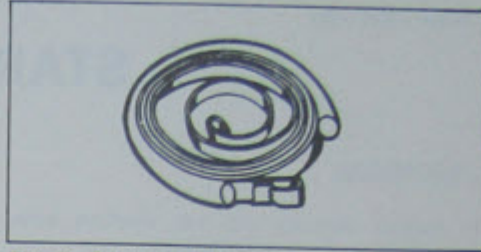

Fig. 7 Spring and keeper
- Check main spring for troublefree operation. If the main spring is damaged, remove by sharply striking starter box (11) on bench, keeping box feet downward. To avoid injury by the spring suddenly being released from its housing. To refit a new spring in its housing, use a genuine spare part supplied in the special keeper (see Fig. 7).